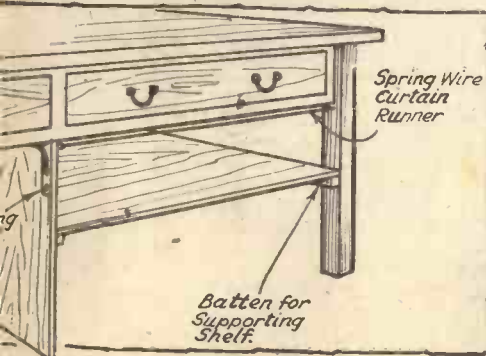

Fig. 5.—The "power-station" or battery compartment.
**Item 10.**—The generating station, otherwise known as the battery cupboard, is shown in detail in Fig. 5. The shelf should, for preference, be covered with a sheet of rubber (an old rubber mat will